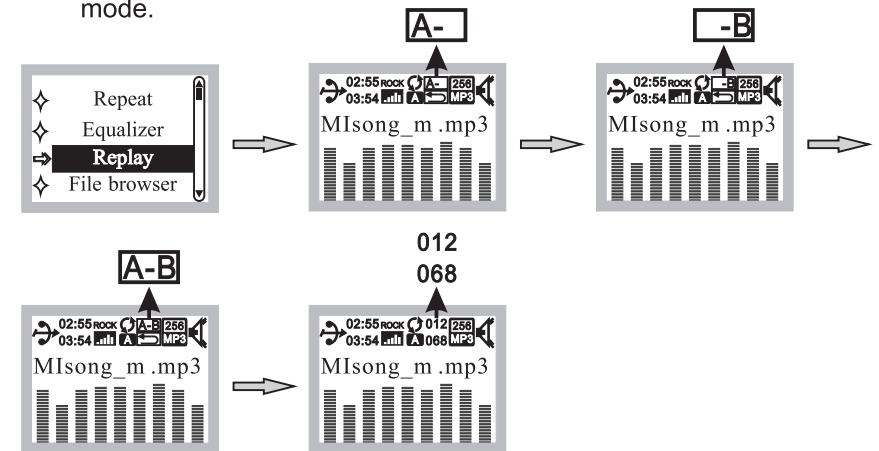

Fig. 12
- (H) Replay Mode, Fig. 12:
- (1) Replay A- / -B mode.
- (2) Press Parameter knob to select parameters.
- (3) Turn right to select A-, starts memory; turn right again to select -B for ending memory. Then it will replay A-B.
- (4) Press Parameter knob to stop Replay Mode and return to playback mode.